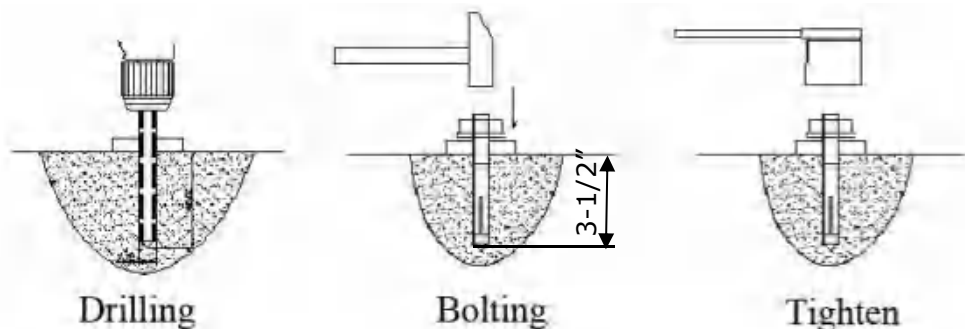

Fig. 15
2. Using the prescribed rotary hammer drill, and drill all the anchor holes and install the anchor bolts. Then tighten the anchor bolts (See Fig. 15).